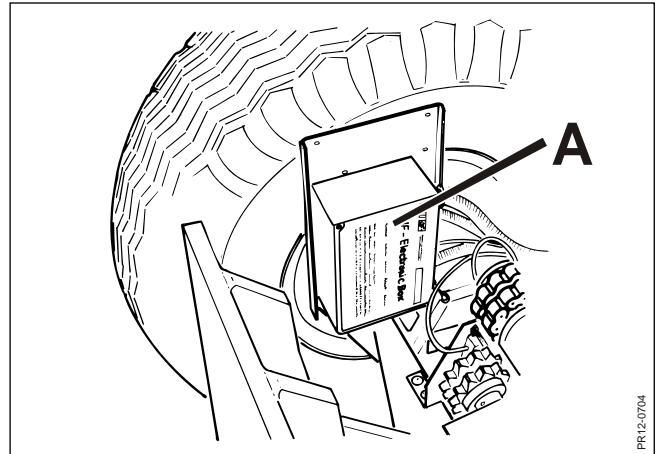

Fig. 5-7
**Fig. 5-7** The electronics box **A** which is placed under the left rear guard contains a printed circuit board with relays and a microprocessor. The microprocessor is equipped with a programme which controls the electronic components of the machine and carries out the commands of the tractor driver or the metal detector of the machine. To protect the electronics a 2-ampere glass fuse (2AF 250V, IEC 127-2-2) has been mounted on the electronics box which is accessible without opening the box.